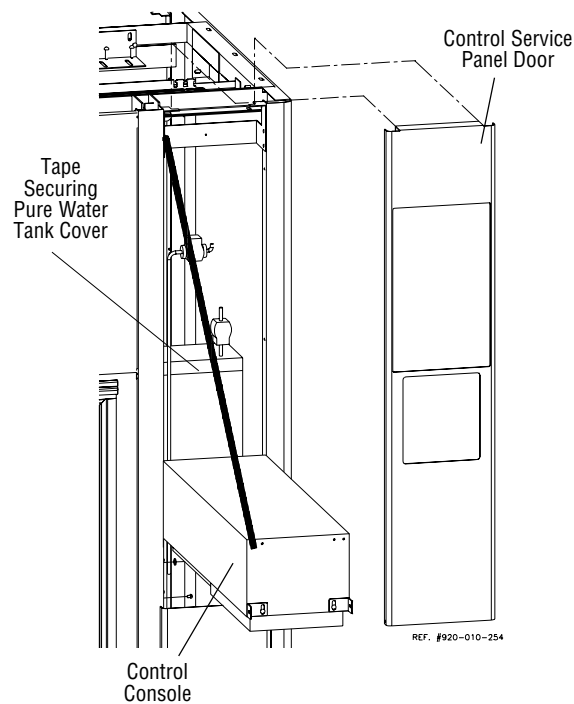

Figure 2-15. Lower Control Console
sole to unit frame. Lower console to horizontal position (see Figure 2-15).
- c. Remove tape from pure water tank cover (see Figure 2-15).